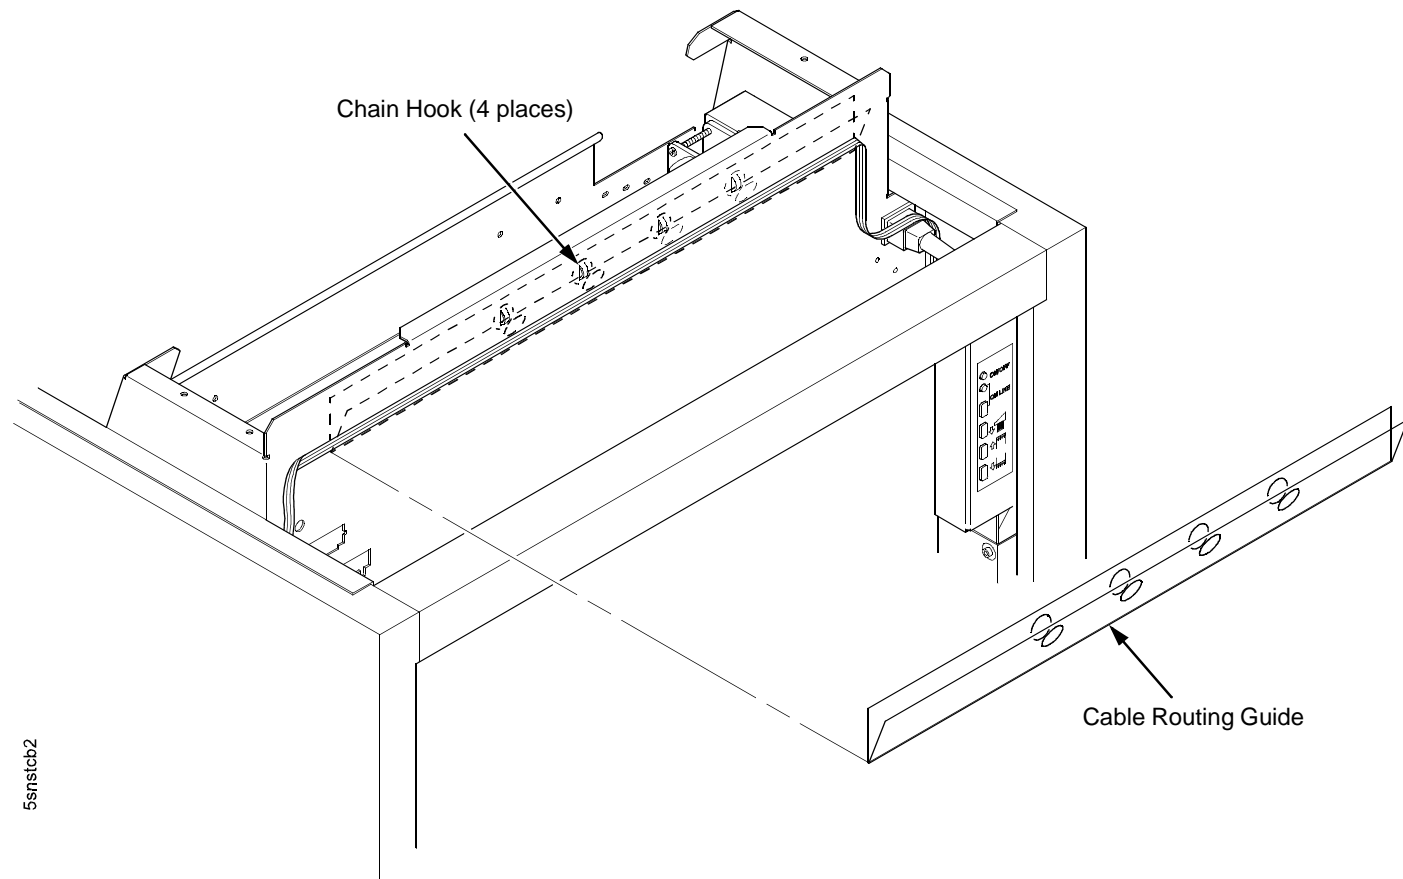

Figure 86. This figure shows how to install the cable routing guide behind the card cage on printers using the CMX or CFX controller board.
(Figure 86.)
12. Position the cable routing guide so that the four chain hooks protrude through the holes in the guide. (Figure 86.)